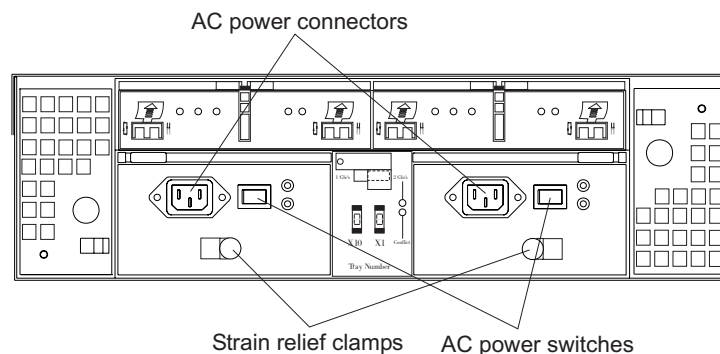

Figure 46. Connecting the power supply
5. Connect the power cable to the power supply ac connector. See Figure 46.